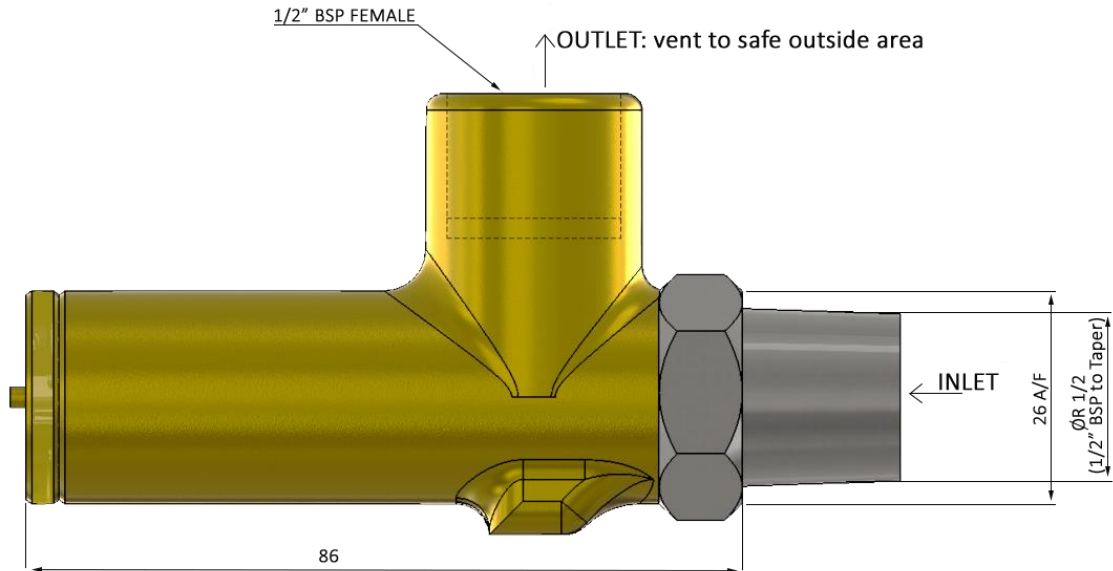

Figure 5.10.1 – Manifold Relief Valve
- Refer to *Figure 5.10.1* for information on how to connect up the Manifold Pressure Gauge and the Relief Valve to the Manifold